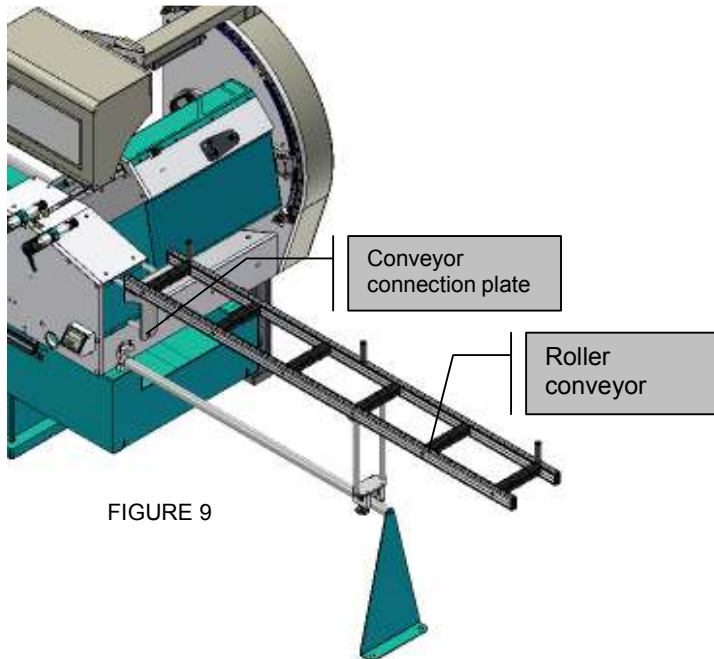

FIGURE 9
4.2.5. View the feed conveyor for the assembly, see figure 9
- Fix KN 300 Material Feeding Conveyor, which is supplied as a standard accessory, to the right side face of the machine over the moveable cutting unit with the supplied screws on the machine (See Figure 9)